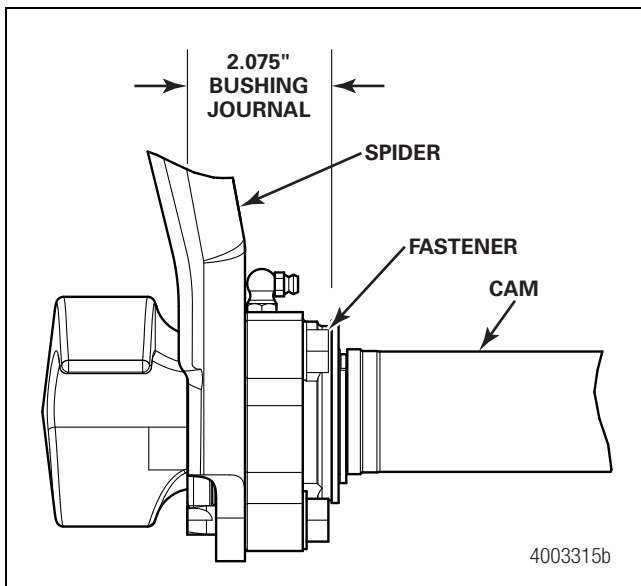

Figure 11.14
- Cams with heat-treated journals are used with bolt-on bushings. Figure 11.14.